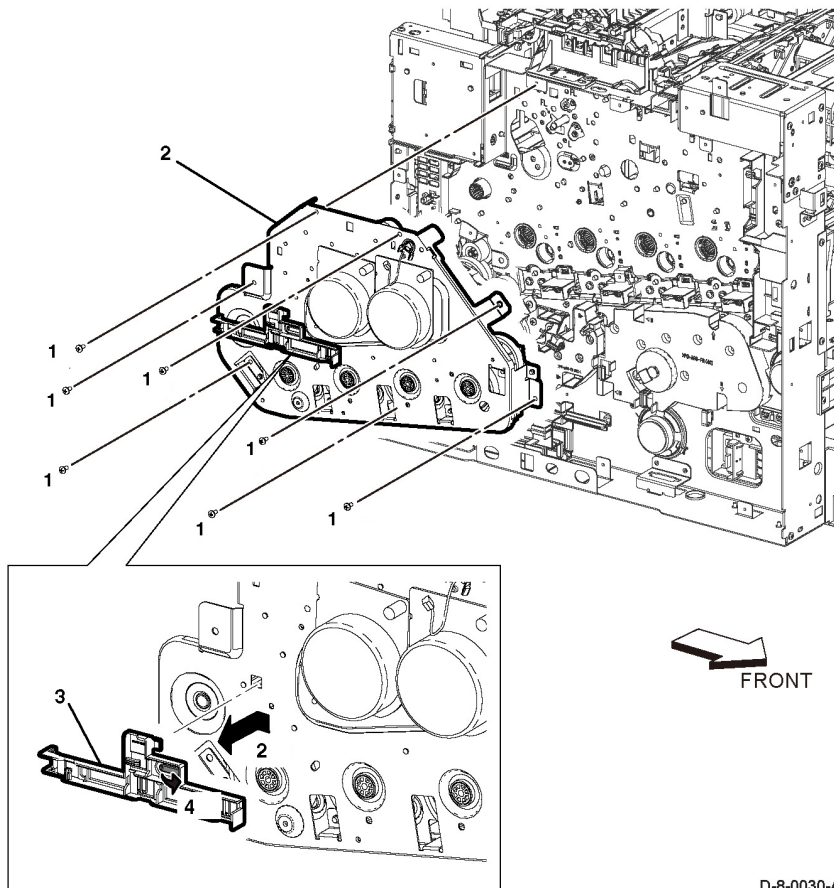

Figure 4 Main H drive assembly removal
31. Remove the main H drive assembly, **Figure 4**:
- a. Remove seven screws (1), then remove the main H drive assembly (2) with the rear interlock harness guide attached (3).
- b. Release the hook (4) to remove the rear interlock harness guide (3) from the main H drive assembly (2).